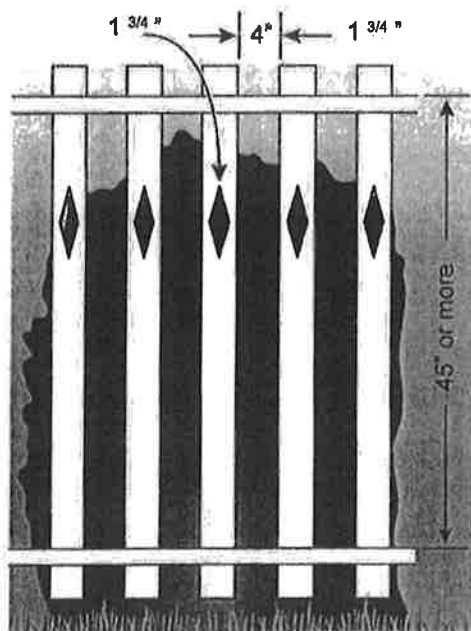

Figure 4
7. Spacing between vertical members should not exceed 1 $\frac{3}{4}$ inches in width. Where there are decorative cutouts, spacing within the cutouts should not exceed 1 $\frac{3}{4}$ inches in width (figure 4).